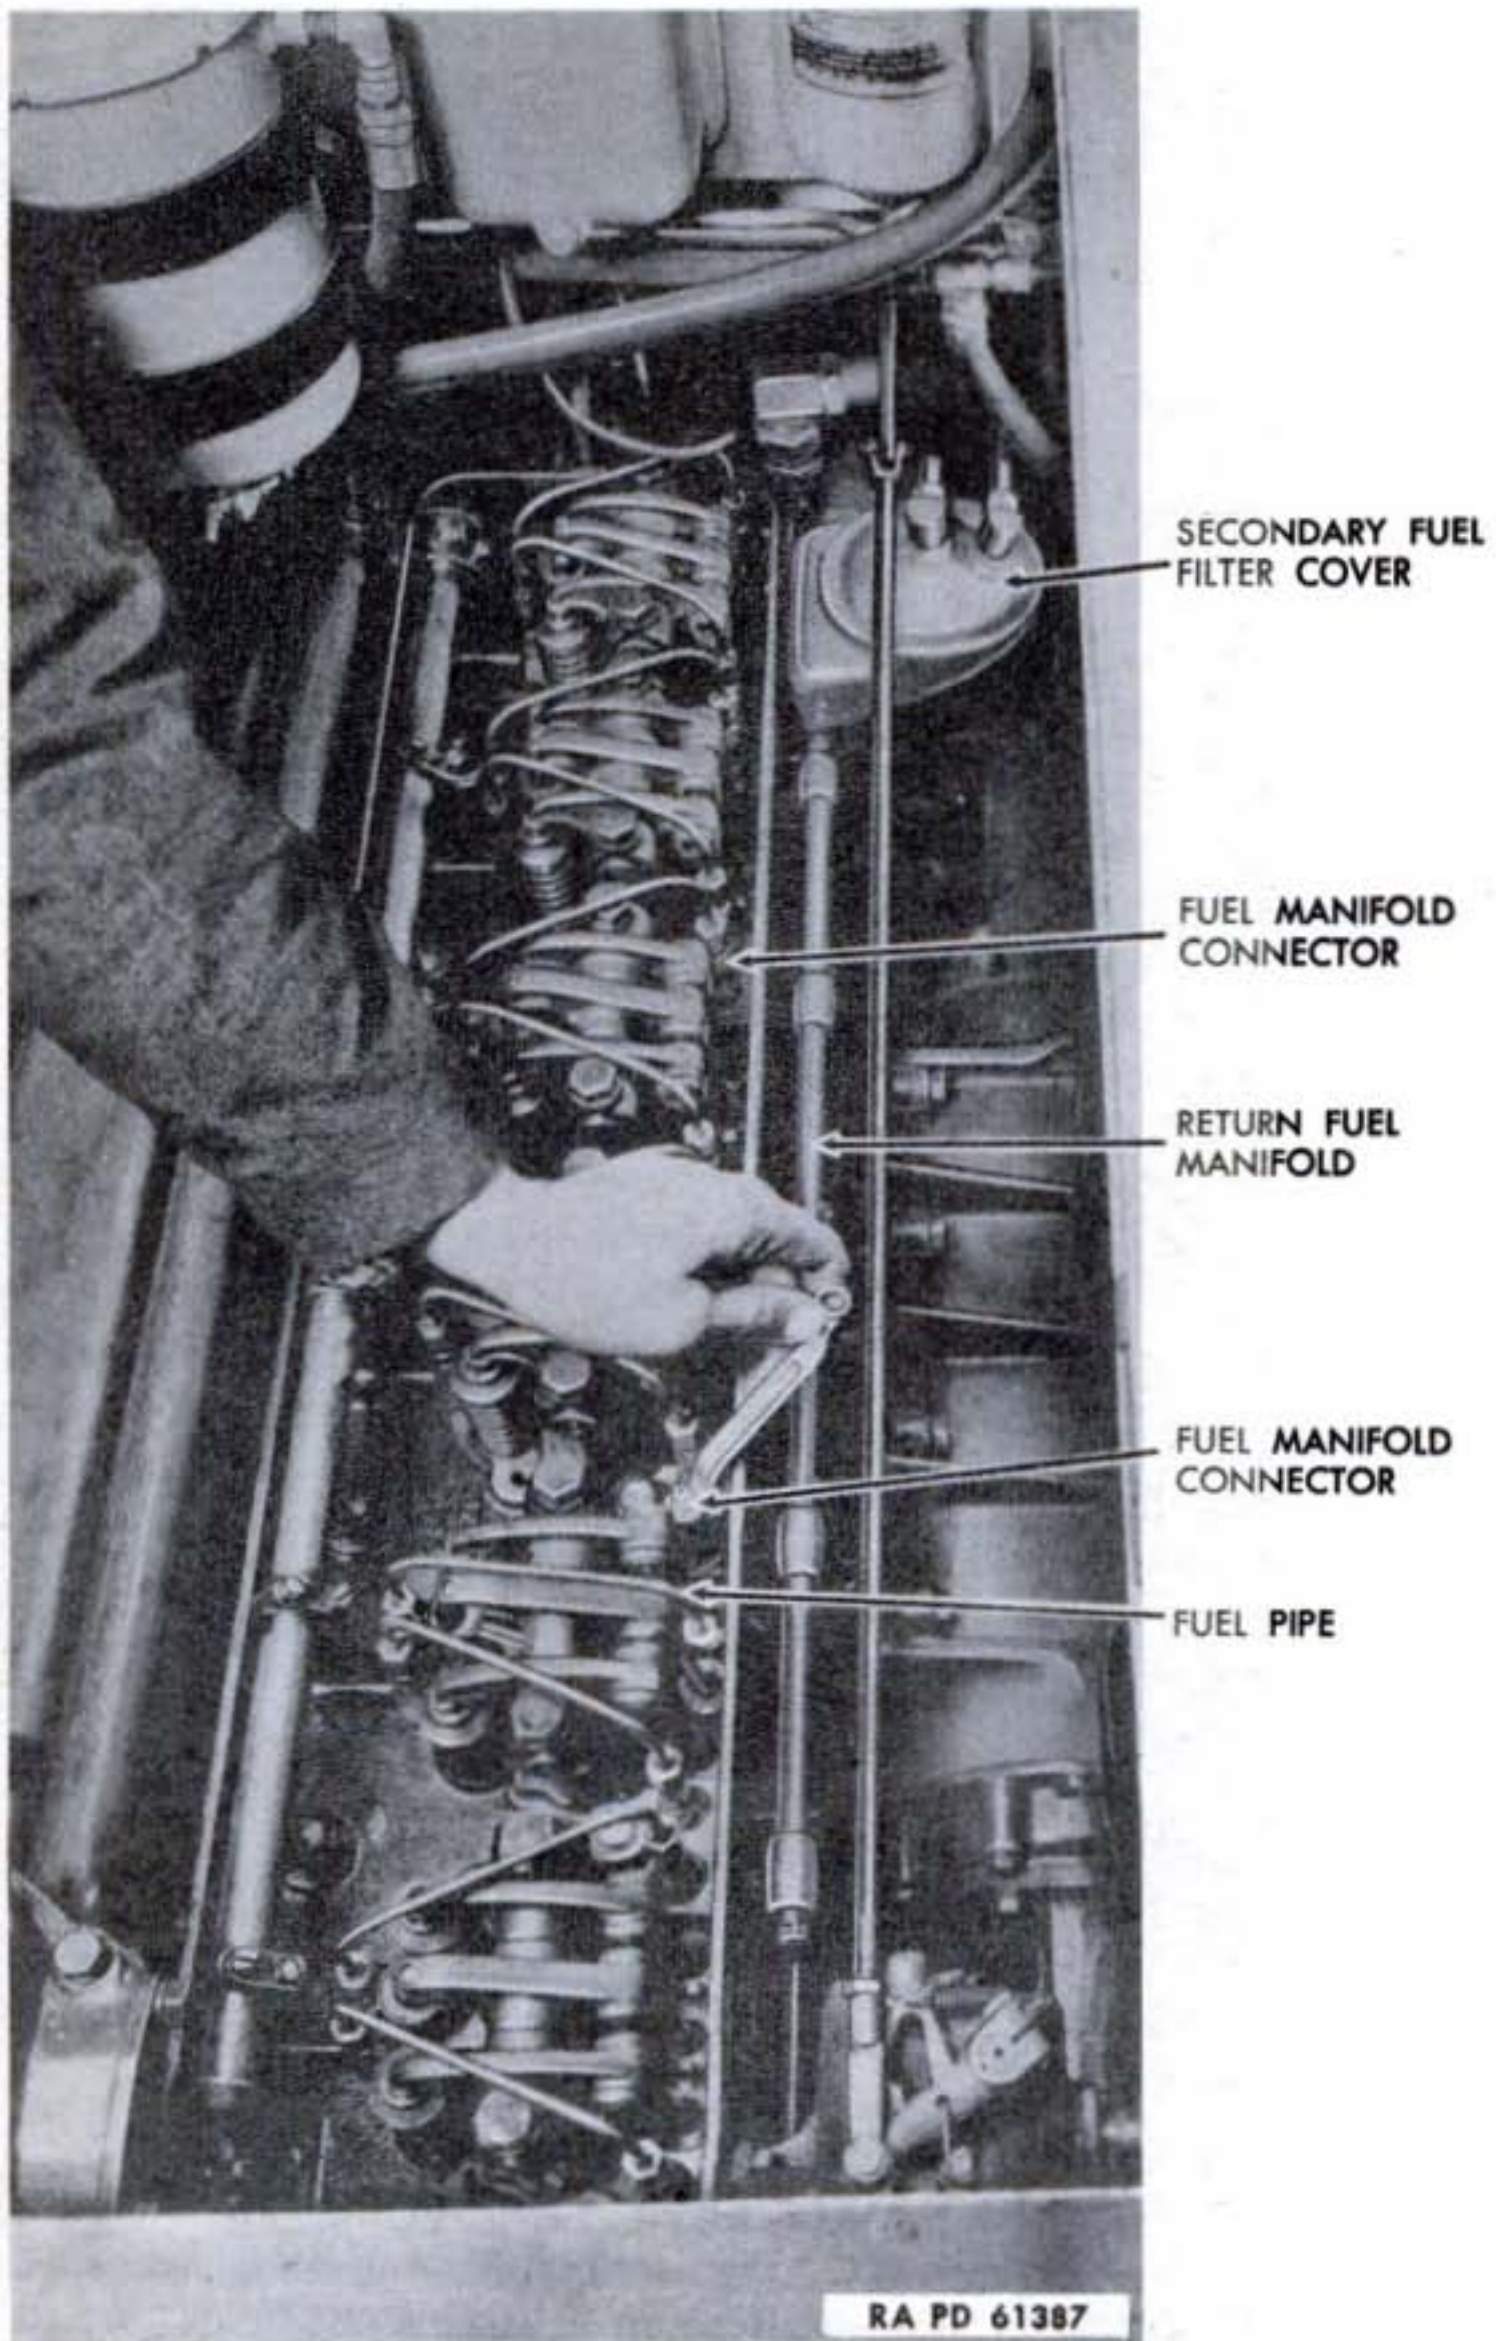

Figure 74—Fuel Pipes and Fuel Manifold Connectors
b. **Removal of Fuel Manifolds.** Remove air cleaners and cover inlet housing (par. 88 b). Remove rocker arm cover (par. 82 b). Disconnect fuel pump outlet line from lower or inlet manifold and fuel return hose from fuel return manifold. Disconnect injector fuel lines from fuel connectors (fig. 74). Loosen lock nuts on connectors and screw connectors out of cylinder head and discard copper washers. Carefully pull manifolds out of cylinder head.
d. **Installation of Fuel Manifolds.** Make sure seats in manifold tee connections are perfectly clean. Install the inlet manifold in the lower openings of the cylinder head with the tee connections on the top side. With lock nuts in place on connectors, install new copper washers and carefully screw connectors into cylinder head while moving manifold to seat connectors in tapered slots in tee connections. Tighten connectors evenly and then turn down lock nuts against copper washers to compress washers (fig. 74). Connect injector fuel pipes to top of manifold connectors. Install upper or return manifold with tee connections on bottom side. Use new copper washers and repeat operations to install connectors. Connect fuel pump outlet line to inlet manifold and fuel return hose to return manifold. Install air cleaners (par. 88 f). Turn fuel tank selector valve to LH or RH position. Start engine and check all connections for leaks and tighten as required. **CAUTION:** *All fuel connections on the cylinder head must be leakproof so as to prevent Diesel fuel from diluting the lubricating oil and thus damaging the engine.* Stop engine and install rocker arm cover (par. 82 c).